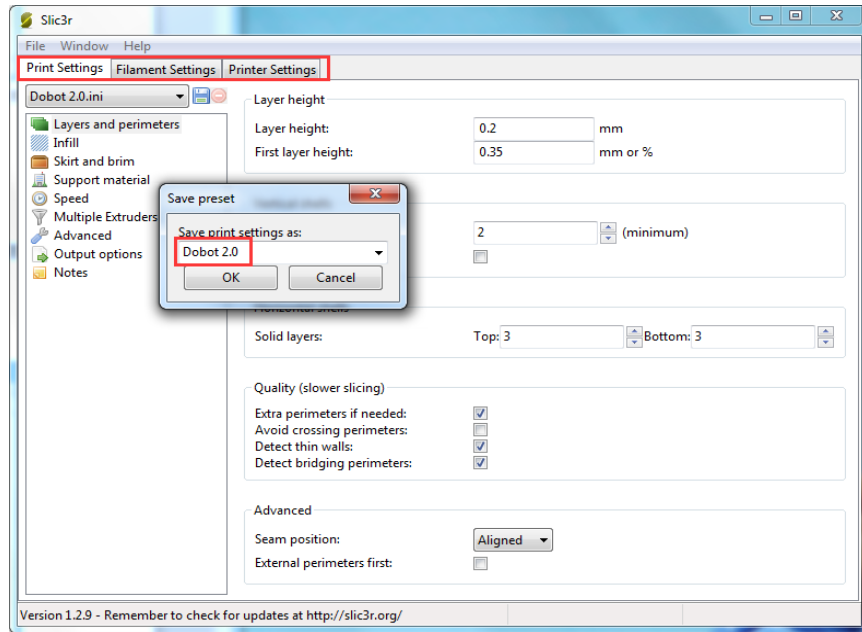

Figure 5.143 Save configuration file
5. Save the **Printing Settings**, **Filament Settings** and **Printer Settings** tabs respectively after importing configuration sample, as shown in Figure 5.143.